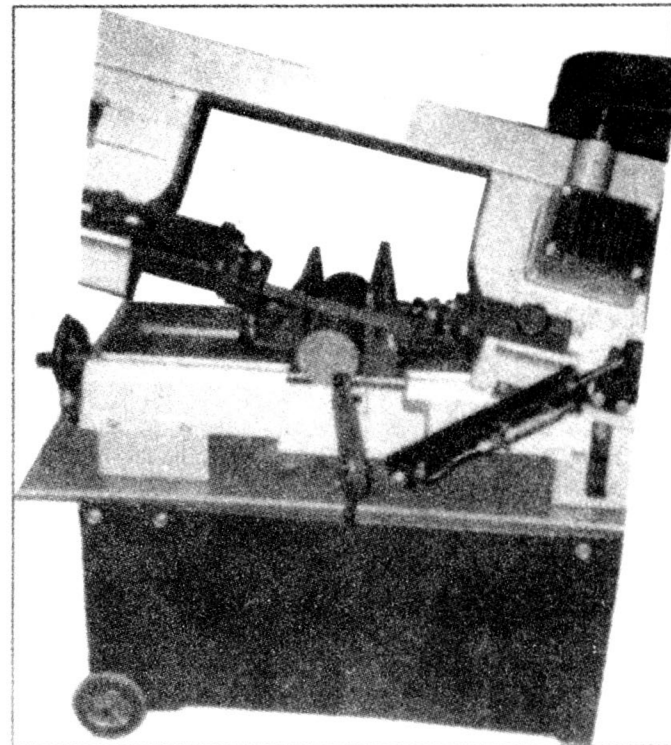

Fig.1
3. Slide wheels onto axles and fasten with pins. Bend pins to hold in place. (Fig. 1)